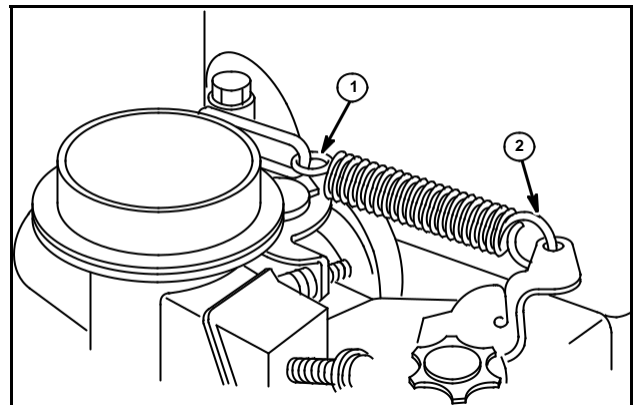

Fig. 52
Governor spring should be installed as shown in Fig. 52. Note position of spring loops (1) and (2).